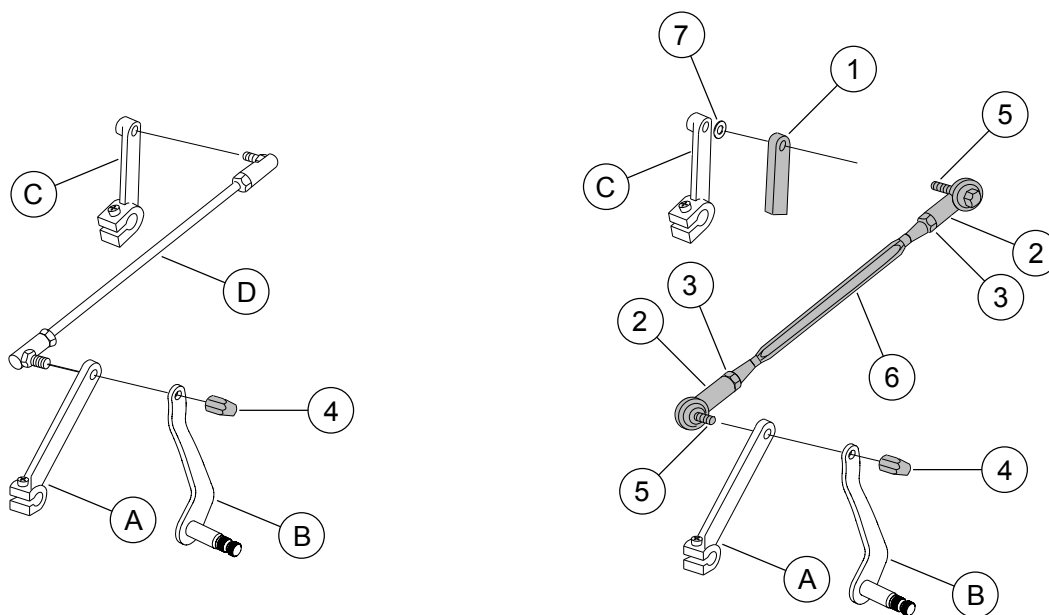

Figure 1. Service Parts: Aluminum Shifter Linkage
See Figure 1 and Table 2.
- See Figure 1. Remove stock shifter rod (D).
- Adjust new shifter rod in kit to match the length of the removed shifter rod by loosening locknuts (3), adjusting the length of the rod, then tightening locknuts to 27–32 N·m (20–24 ft-lbs).
- For models with a straight rear shifter rod lever:** Discard spacer (7). Place cover (1) over the shifter rod lever (C). **For models with an offset rear shifter rod lever:** Place spacer (7) and cover (1) over the shifter rod lever (C). Kits 33900103 and 33900134 do not include shifter rod lever cover (item 1).